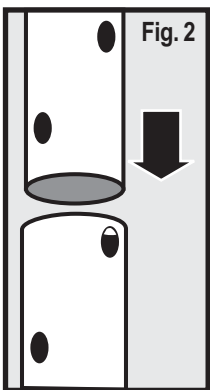

Fig. 2
2. Insert small diameter post inside large post. For maximum height, position small diameter post with holes at bottom. Reverse for shorter applications. (Fig. 2)